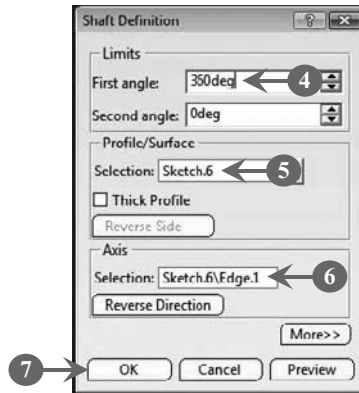

FIGURE 3.11
The **Shaft Definition** dialog box opens (**Figure 3.11**).
4. Specify the angle of rotation for the sketch. In our case, the first angle is set to 360 degrees in the **Shaft Definition** dialog box (Figure 3.11).
5. Select the **Selection** box in **Profile/Surface** group and select the sketch that is added in the **Selection** box. In our case, we select Sketch.6 (Figure 3.11).
6. Select the axis in the **Axis** option along which the image will be rotated (Figure 3.11).
7. Click the **OK** button in **Shaft Definition** dialog box, as shown in Figure 3.11: